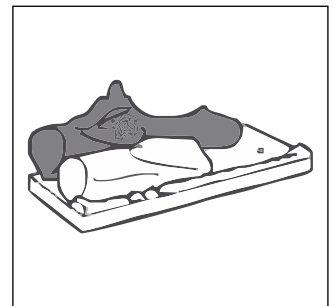

FIG 14
- b) Place log #2 onto the 2 left back pins. Refer **FIG 14**.